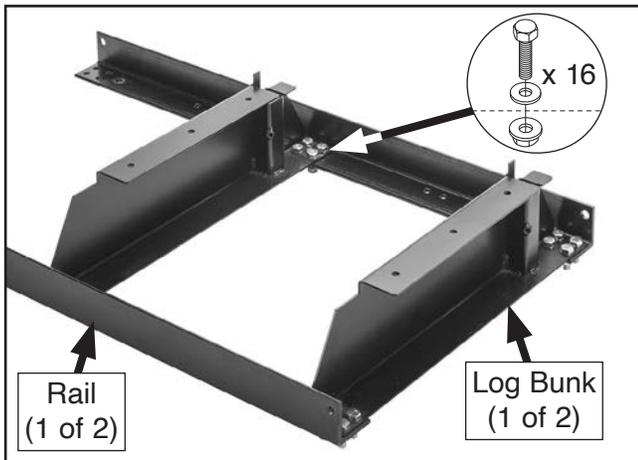

Figure 14. Log bunks attached to track rails.
1. Attach (2) log bunks to (2) track rails with (16) M10-1.5 x 30 hex bolts, $\frac{3}{8}$ " flat washers, and M10-1.5 flange nuts (see **Figure 14**). Hand-tighten all fasteners until told otherwise later.